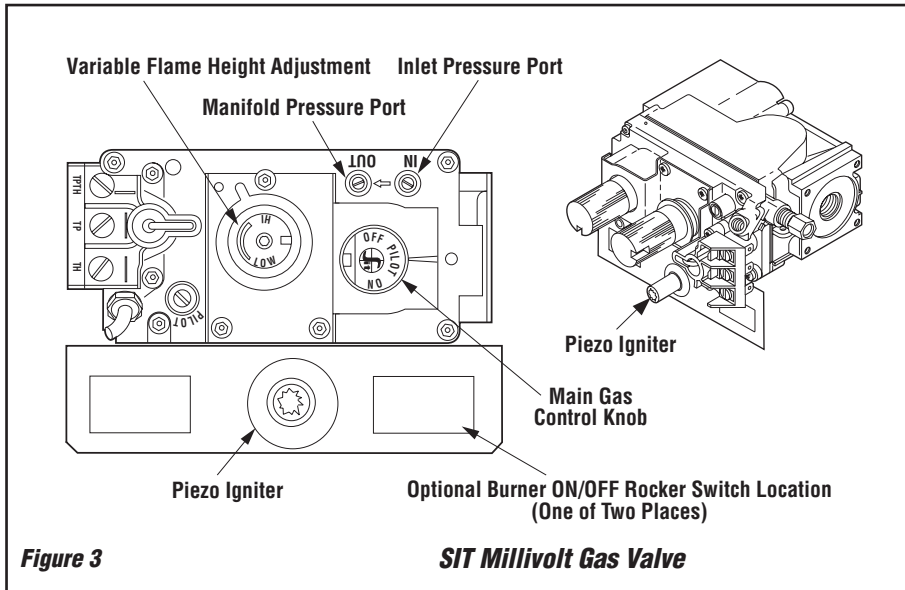

Figure 3
Millivolt appliances will be fitted with the gas control valve shown in **Figure 3 on Page 5**.
To light millivolt appliances refer to the detailed lighting instructions found on **Page 20 (English) and Page 21 (French)**. **Millivolt appliance lighting instructions may also be found on the pull-out lighting instruction labels attached to the gas control valve.** Refer to **Figure 3 on Page 5** for the location of the piezo igniter.
1. All Millivolt appliances are equipped with a variable gas control valve. Flame height for these models may be adjusted through a range between fixed low and high settings, alternately, while the appliance is in operation. Adjust the flame height as desired after lighting the appliance by rotating the variable adjustment control knob located on the front of the valve (**refer to Figure 3**).